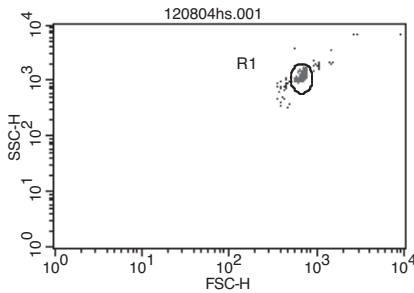

Figure 2a
Adjust gate R1 so that the singlet bead population is located in gate R1 (*Figure 2a*).
4. In setup mode, run tube number 1 and using the FSC vs. SSC dot plot, place the R1 region gate around the singlet bead population (see *Figure 2a*).